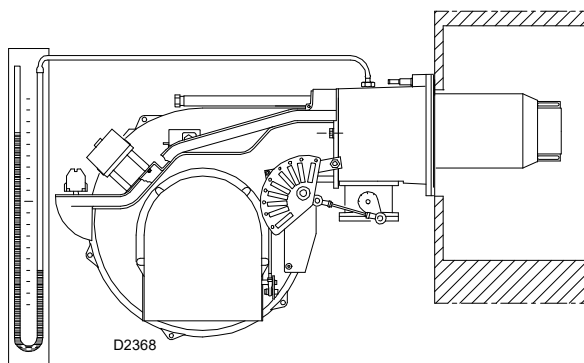

Fig. 32
- Fit a U-type manometer (Fig. 32) to the gas pressure test point on the sleeve.